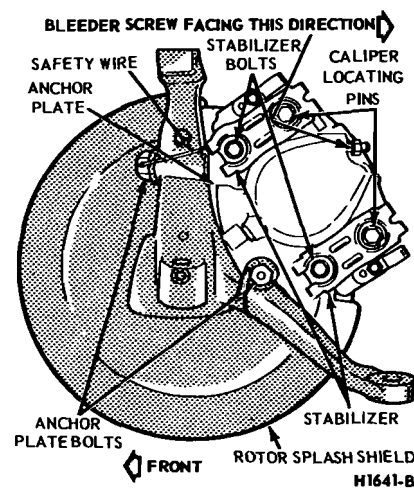

FIG. 6—Floating Caliper Installed—Rear View
(Fig. 6).
6. Remove the upper stabilizer to anchor plate attaching bolt and remove the upper stabilizer to avoid interference with the brake hose during caliper removal (Fig. 6).
8. Install the caliper locating pins and torque to specifications (Fig. 6).